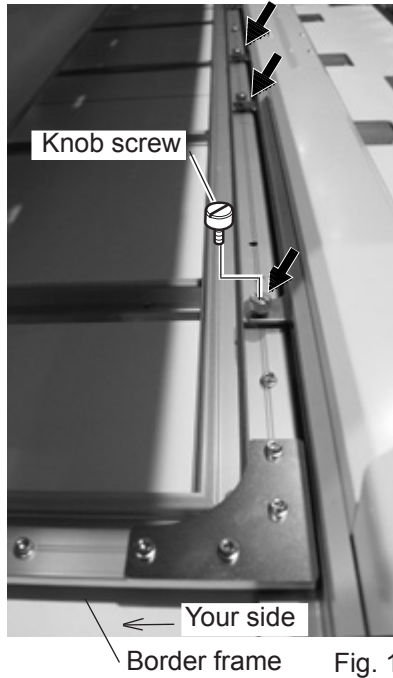

Fig. 1
3. Remove all knob screw indicated in arrow mark on back of the Border frame and take out Border frame slowly toward you as shown in Fig. 1.